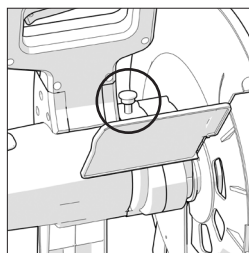

Fig. 3
- Engage the arbor lock by pressing the arbor lock button. (**Fig. 3**)